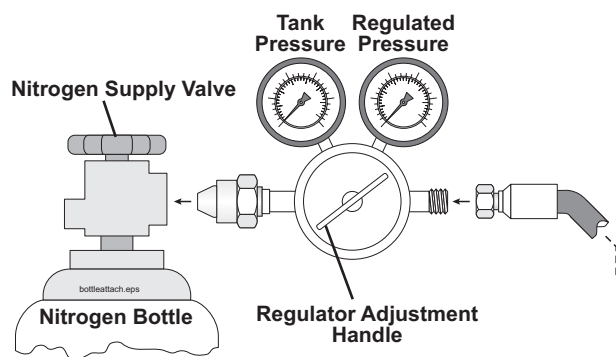

Figure 37
8. Ensure that the nitrogen bottle supply valve is firmly closed. Attach the high-pressure regulator to the nitrogen bottle, then attach the hose to the high-pressure regulator. Finally, attach the other end of the hose to the charge valve stem on the charge valve assembly (Figure 37).
9. Do not open the nitrogen bottle supply valve yet. Turn the regulator adjustment handle on the high-pressure regulator (Figure 37) counterclockwise to its minimum setting (closed).
10. Slowly open the nitrogen bottle supply valve (Figure 37). You will get a reading on the tank pressure gauge side of the regulator. If there is enough pressure in the nitrogen bottle to do the job, proceed to the next step.
11. Adjust the regulator adjustment handle clockwise, raising the regulated pressure. The accumulator will begin to fill. Continue filling until the charge valve assembly pressure gauge (Figure 37) reads the desired pressure of 1500 psi. Close the nitrogen bottle supply valve.